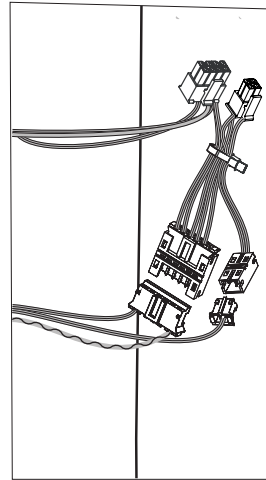

Fig. 11a
- a. Connect 6-pin connector from exit device to 6-pin connector on reader harness (Fig. 11a, b).
- b. Connect 2-pin connector from exit device to 2-pin connector on reader harness (Fig. 11a, b).